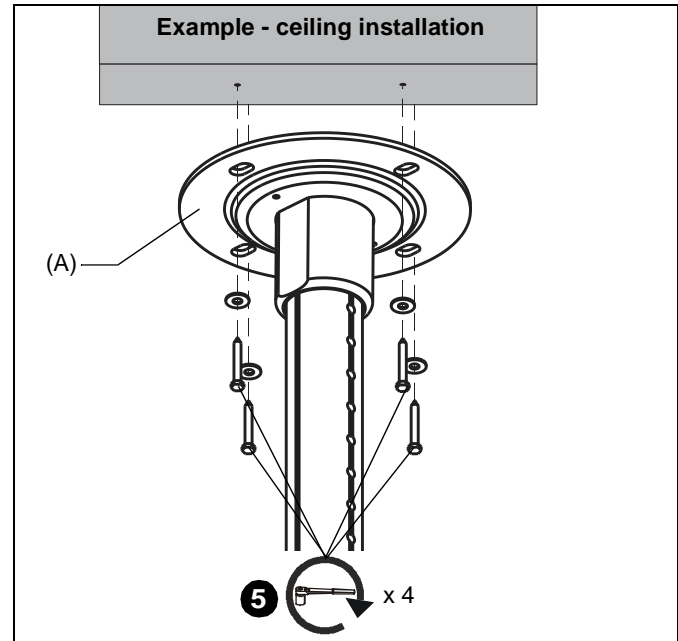
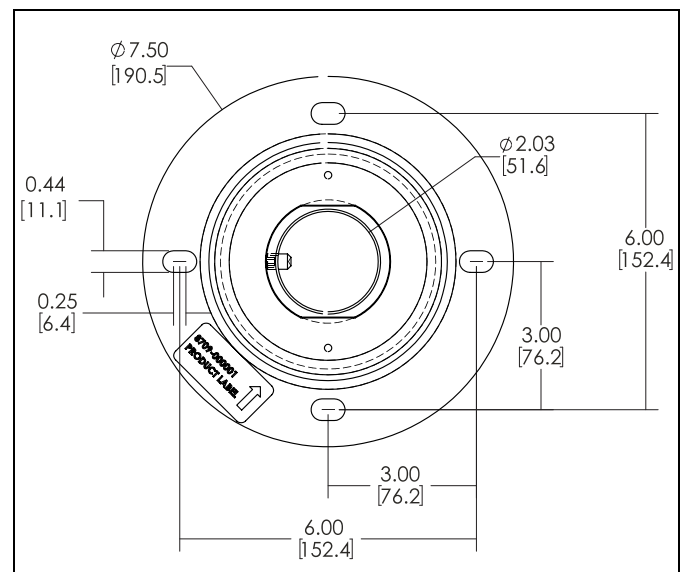

Figure 2
Figure 3
5. Install and tighten four 5/16" x 2-3/4" (minimum) lag screws (not included) through floor/ceiling flange (A), into wood stud cross bracing. (See Figure 2) (See Figure 3) for dimensions details.
6. Fully tighten set screws (E) into floor/ceiling flange (A).
5. Use four UX10 anchors (not provided) to secure floor/ceiling flange (A) into solid concrete ceiling or floor. See dimensions details. (See Figure 3)